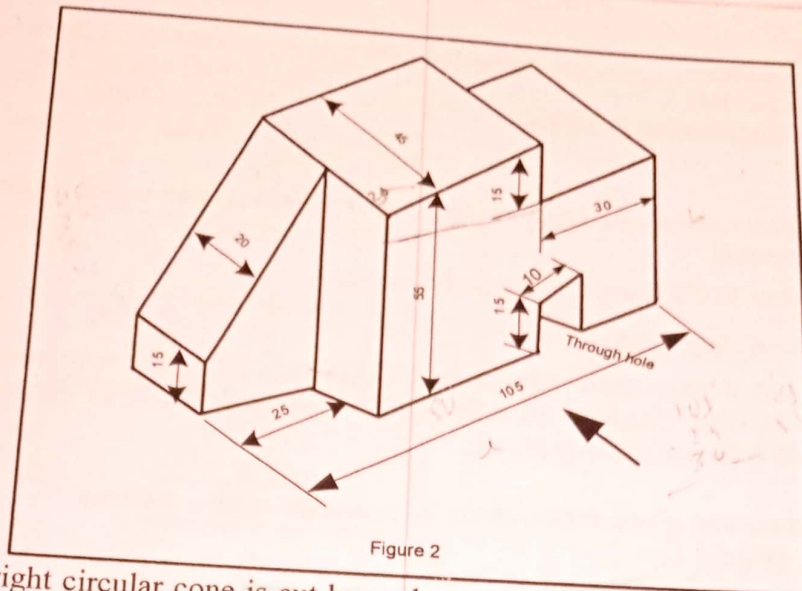

Figure 2
3. Draw complete orthographic views (three views) of the given object (figure 2). 30